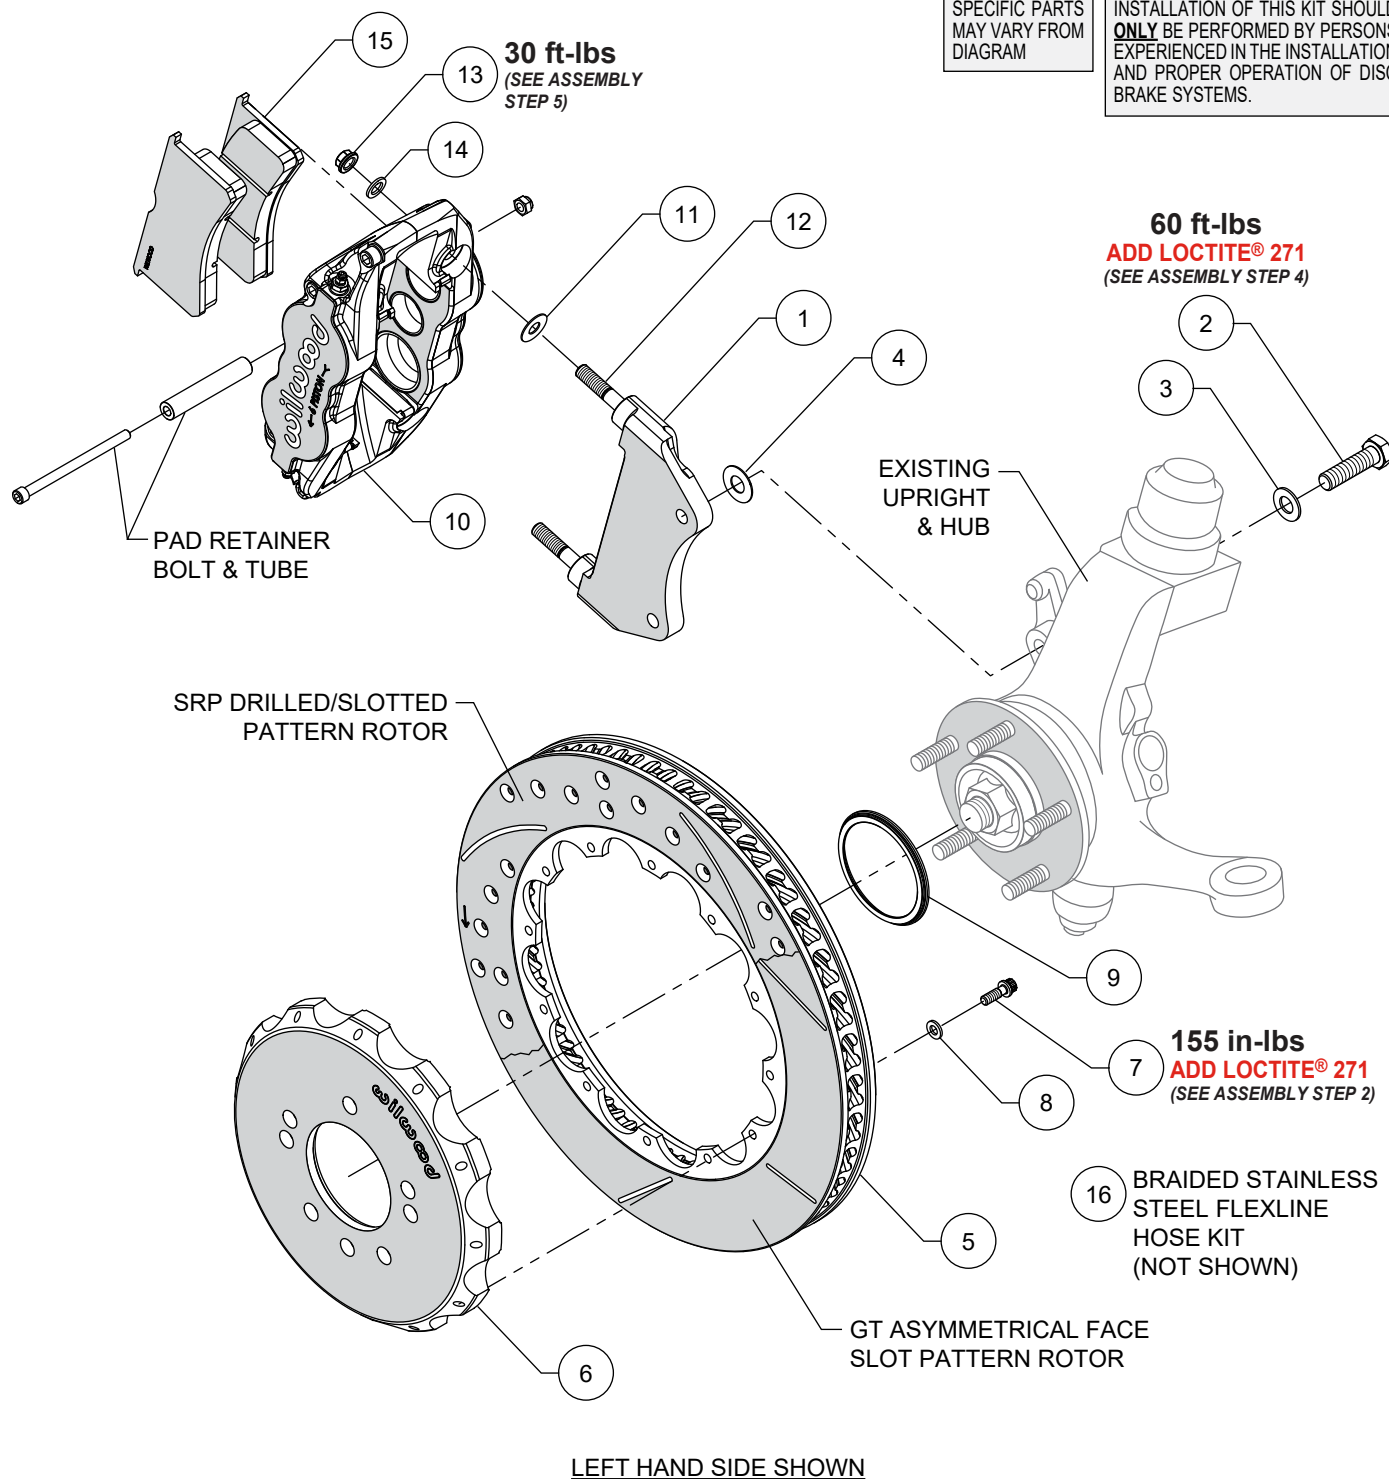
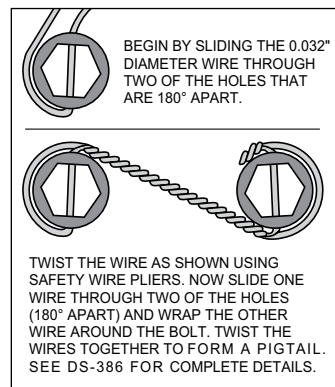

Figure 1. Typical Installation Configuration
Figure 2
NOTE: Numbers in parenthesis refer to the parts list and Figure 1 on the preceding pages.
STEP 1 The caliper mount bracket (1) should initially be installed with clean, dry threads on the mounting bolts. Orient the bracket as shown in Figure 1 and Photo 1, and install using mounting bolts (2) and washers (3). Initially place one .033" thick shim (4) on each bolt between the bracket and upright, Figure 1. Temporarily tighten the mounting bolts. **NOTE:** *The bracket must fit squarely against the mount bosses on the upright.* Inspect for interference from casting irregularities, machining ridges, burrs, etc. Later, after the caliper alignment has been checked, the mount bolts will be secured using red *Loctite*® 271.
STEP 2 Orient the rotor (5) and the hat (6) as shown in Figure 1 and Photo 2. Attach rotor to hat using bolts (7) and washers (8). Apply red *Loctite*® 271 to the bolt threads and torque to value shown in Figure 1 using a criss-cross pattern. For an added measure of security, the bolts may be safety wired using standard 0.032 inch diameter stainless steel safety wire as shown in Figure 2. Please refer to Wilwood's data sheet DS-386 (available at www.wilwood.com/Pdf/DataSheets/ds386.pdf) for complete safety wire installation instructions.
STEP 3 Install the rotor registration adapter (9) onto the register of the hub assembly with the smaller O.D. facing outward, Photo 3. Slide the hat/rotor assembly (5 and 6) onto the hub assembly. **NOTE:** *The hat must fit flush against the hub flange or excessive rotor run out may result.* Install three lug nuts (finger tight) to keep the hat/rotor assembly in place while continuing with the installation, Photo 4.
STEP 4 **NOTE:** *This kit contains distinct right and left hand calipers that must be mounted in a specific direction, as described below.* Initially place one .035" thick shim (11) on each stud as shown in Figure 1 and Photo 5. Mount the caliper (10) onto the bracket (1) using lock nuts (13) and washers (14), Figure 1. Ensure that the caliper is mounted so that the largest pistons are at the rotor exit end of the caliper, in relation to the direction of rotor rotation. Temporarily tighten the lock nuts and view the rotor through the top opening of the caliper. The rotor should be centered in the caliper, Photo 6. If not, adjust by adding or subtracting shims (4) between the bracket and the upright. Always use the same amount of shims on each of the two mounting bolts. Once the caliper alignment is correct, remove the bracket mounting bolts (2) one at a time, apply red *Loctite*® 271 to the threads, and torque to value shown in Figure 1.
STEP 5 Remove the caliper center bridge pad retainer bolt, nut, and tube from the caliper. Insert the brake pads (15) into the caliper, with the friction material facing the rotor, as shown in Photo 7. Check that the top of the brake pad is flush with the outside diameter of the rotor, Photo 8. If not, adjust by adding or subtracting shims (11) between the caliper and the bracket.
After the caliper pad height is set, reinstall the center bridge pad retainer tube, bolt, and lock nut. The lock nut should be snug without play in the bolt or tube. Be cautious not to over tighten. Torque the caliper lock nuts (13) to value shown in Figure 1.
STEP 7 Attach supplied brake line to caliper. **NOTE:** OEM rubber brake hoses generally cannot be adapted to Wilwood calipers. Install Wilwood's stainless steel braided flexline hose kit (16), P/N 220-18241 included with this kit. The caliper inlet fitting is a 1/8-27 NPT. Use the included steel adapter fitting at the caliper (use PTFE tape on the pipe threads of adapter fitting for proper sealing to caliper). Note final orientation of adapter fitting as shown in Photo 10 (arrow). Route line as shown in Photos 9 and 10. Reuse existing OEM brake line bracket bolt and mounting location to secure Wilwood flexline bracket, Photo 9 (arrow). **Ensure hoses are routed to prevent contact with moving suspension, brake or wheel components.**